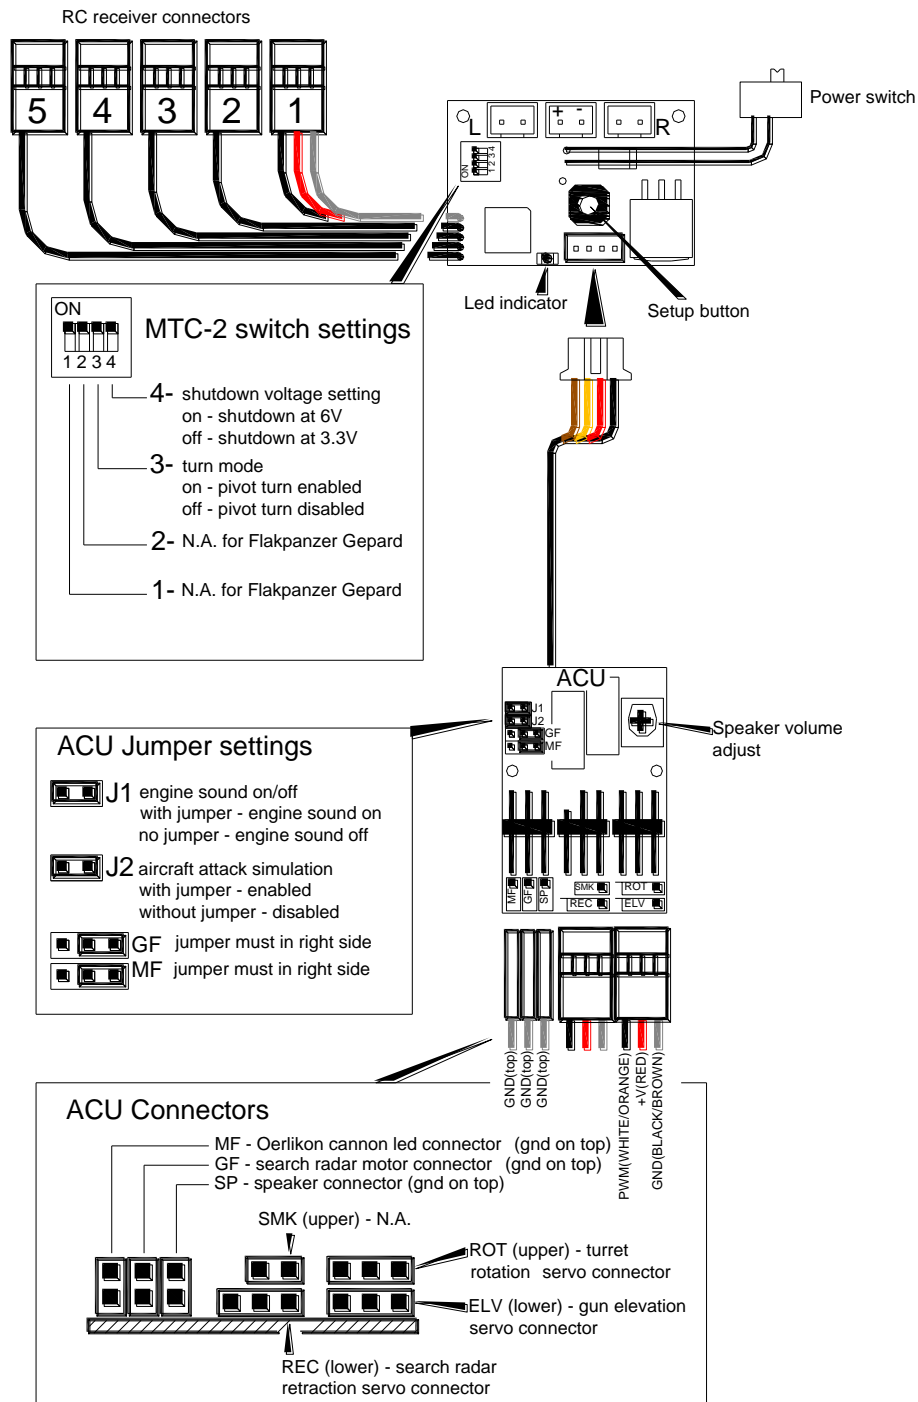

Fig.1 - MTC-2 and ACU (for Flakpanzer Gepard)
- 18) GF and MG jumpers – both jumpers must install in the right side (see Fig.1).
- Pivot turn is disabled when dip switch 3 is switched off (Fig.1).